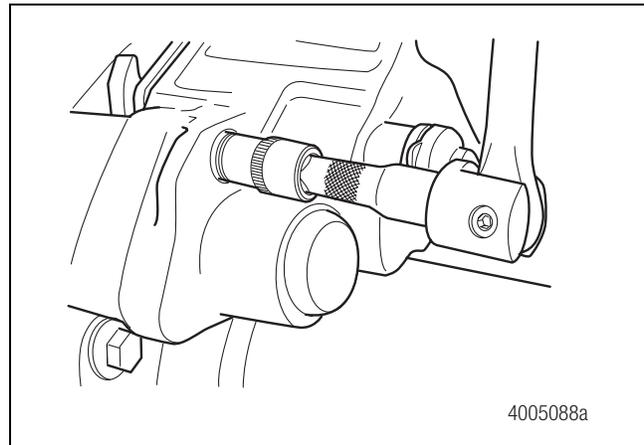

Figure 5.16
2. Use the correct size socket to remove the four bridge bolts. Figure 5.16. Discard the bridge bolts after they have been removed. They are no longer usable.